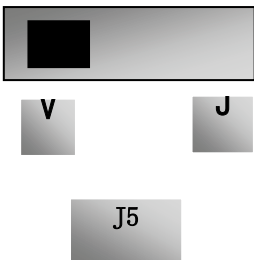

Figure 8-5
- vi. (6) Close the switch DI3, the motor starts forward running;
- vii. (7) The potentiometer can be adjusted and set during running, and the current setting frequency of the inverter can be changed;
- viii. (8) During running process, switch off the switch DI3, then, close DI4, the running direction of the motor will be changed;
- ix. (9) Switch off the switches DI3 and DI4, the motor will decelerate until it stops running;
- x. (10) Switch off the air switch, and power off the inverter.
- xi. (11) Analog output terminal AO1 can output voltage and current signal, the selecting switch is J5, please refer to Figure 8-5 the output relation is shown in Table 8-3.